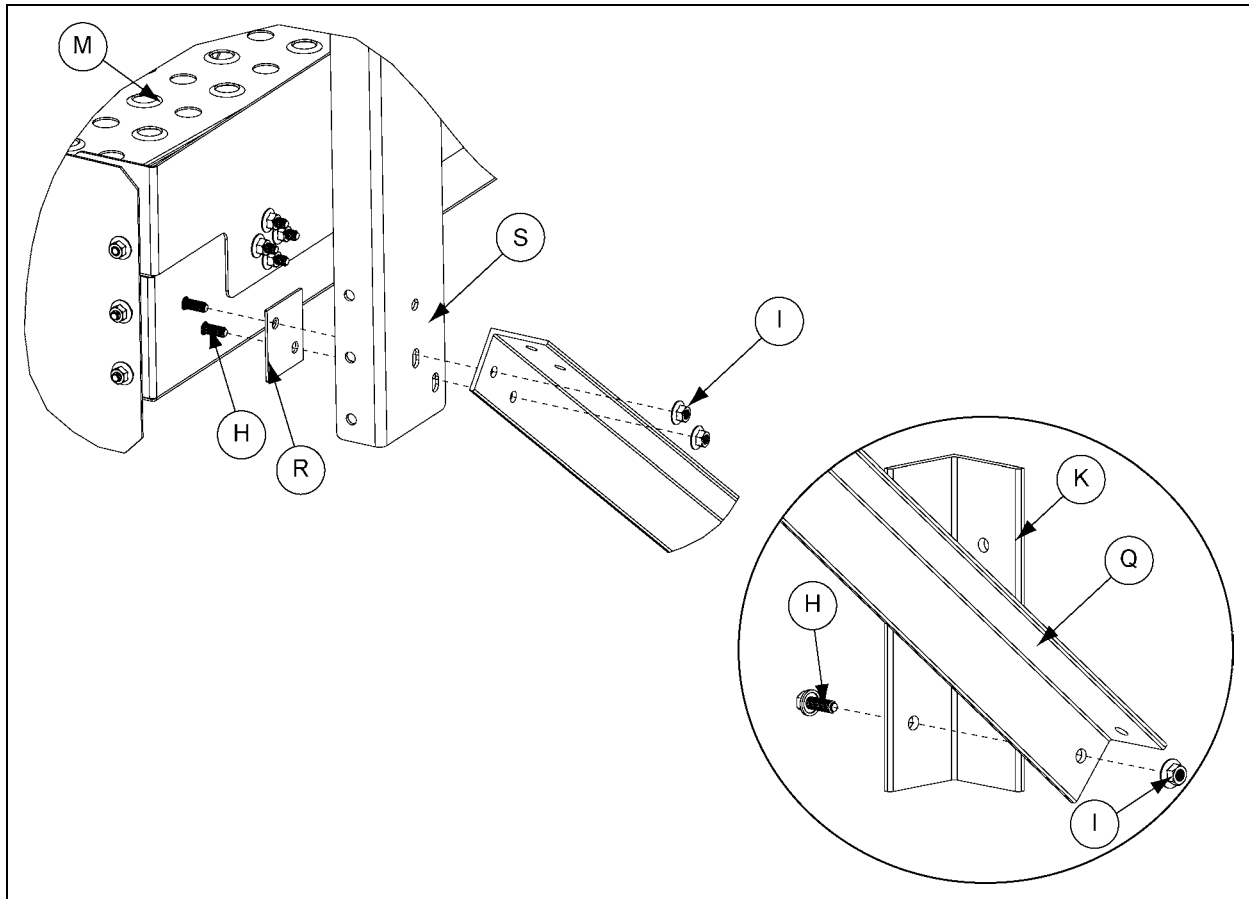

Figure 3F
5. Install the middle platform support (Q) to the wall clips (K) and a plank (M) using bolt (H) and nut (I).
6. Install the end platform supports to the wall clips (K), handrail posts (S), a shim (R) and the plank (M) using bolt (H) and nut (I).
7. Install the outer toe board to the planks (M). *(See Figure 3F.)*